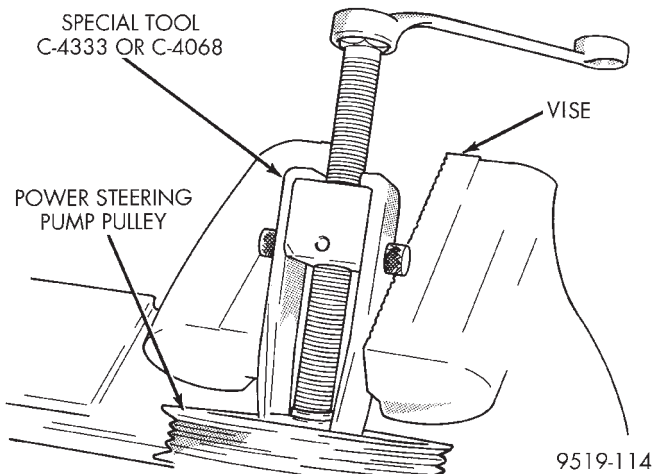

Fig. 31 Removing Pulley From Power Steering Pump Shaft
(2) Mount Puller, Special Tool C-4333 or C-4068 on power steering pump pulley. Mount power steering pump and puller in a vise (Fig. 31) to keep shaft of power steering pump from turning when removing pulley.